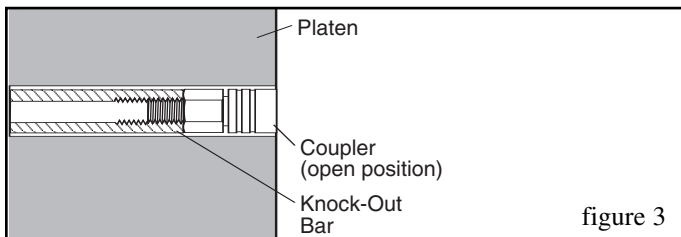

figure 3
2. Insert the knock-out bar and coupler through the platen and into the press ejector plate. For presses with non-adjustable ejector home position, install the coupler (in the open position) flush with the platen surface. The outer sleeve of the coupler will be flush with the platen surface only in the open position. See figure 3.